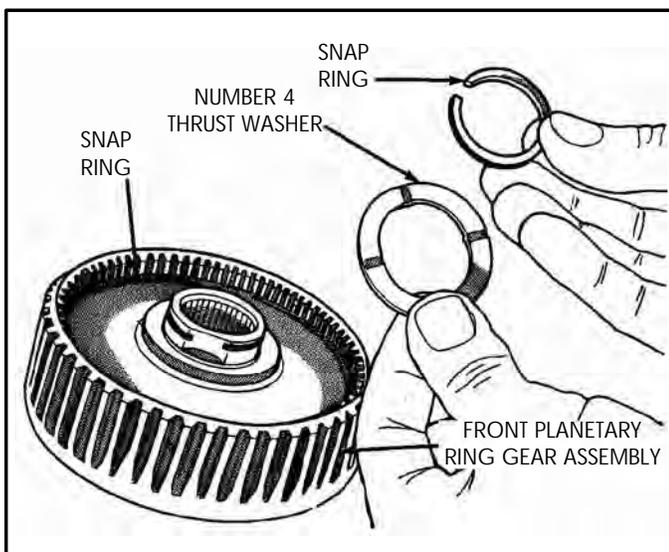

Figure 62
1. Remove and discard retaining snap ring, as shown in Figure 62.
2. Remove the number 4 thrust washer, as shown in Figure 62.